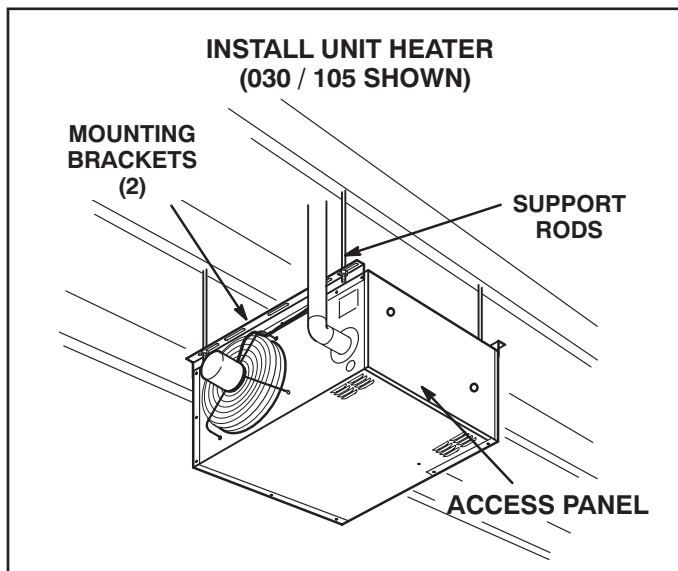

FIGURE 4
Unit may be installed as shown in figure 4 or rotated 180°.
- 6 - To support unit, secure mounting bracket to ceiling joist or truss. Unit may also be supported using support rods as shown in figure 4.